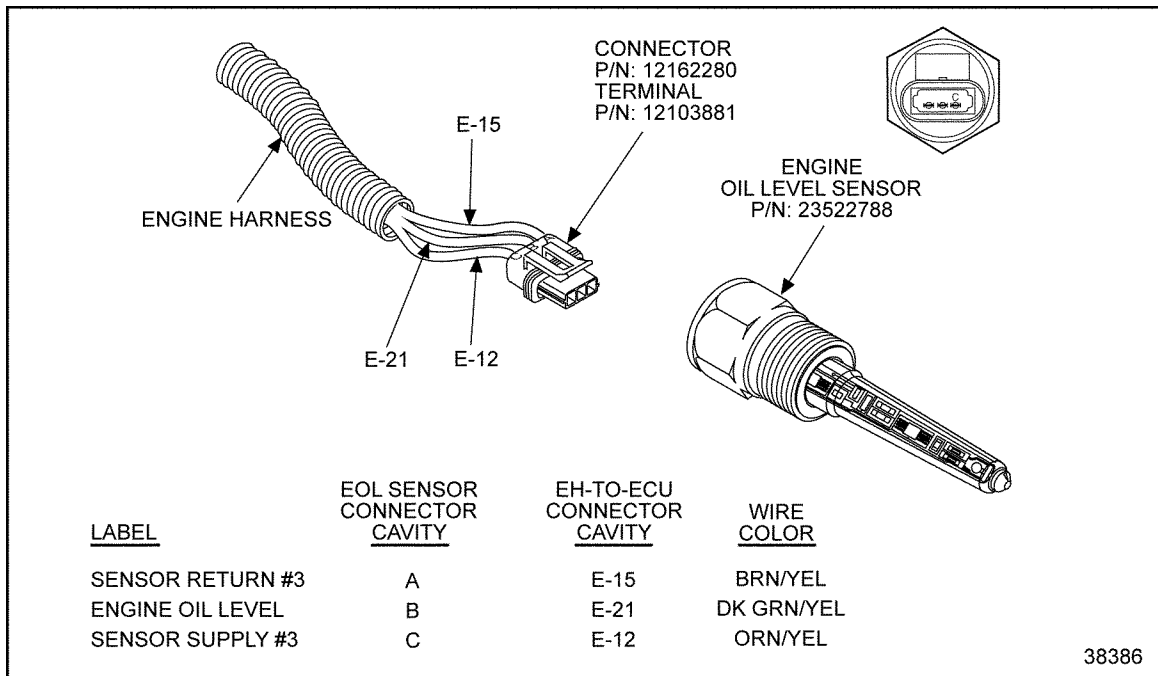

Figure 70-3 Oil Level Sensor
1. Measure resistance between pin B and pin C of the EOL Sensor. See Figure 70-3.
3. Insert a jumper harness between the pins A and B of the EOL Sensor connector. Measure resistance between cavity E-15 and E-21. See Figure 70-3.
- [a] If reading is greater than 10 Ω , cavity E-15 is open. Repair the open or replace the harness; verify the repair. See Figure 70-3. Refer to section 70.4.3.1.